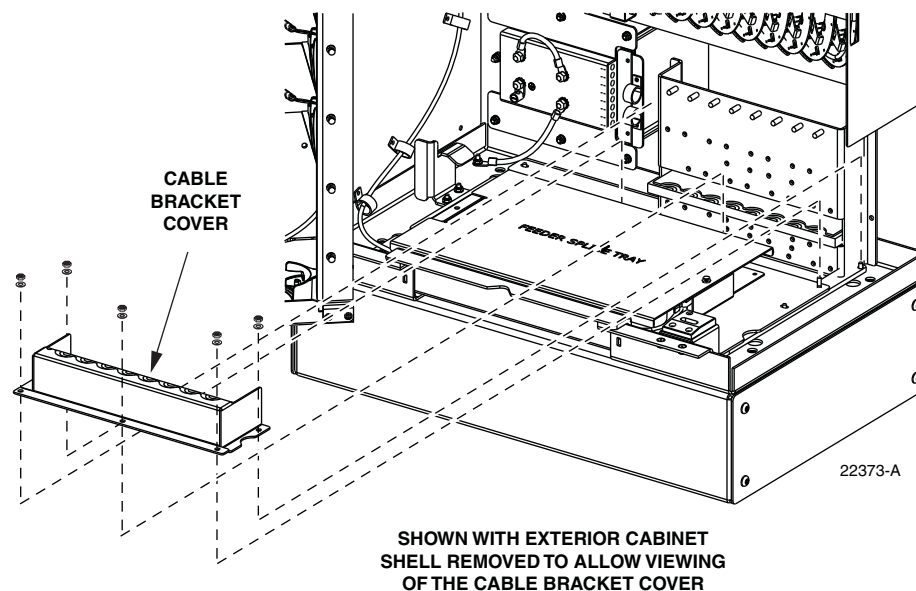

Figure 16. Cable Bracket Cover Removal/Installation
1. Remove the five nuts and flat washers that secure the cable bracket cover to the bottom of the cabinet as shown in Figure 16. Save all nuts and washers for later re-installation.